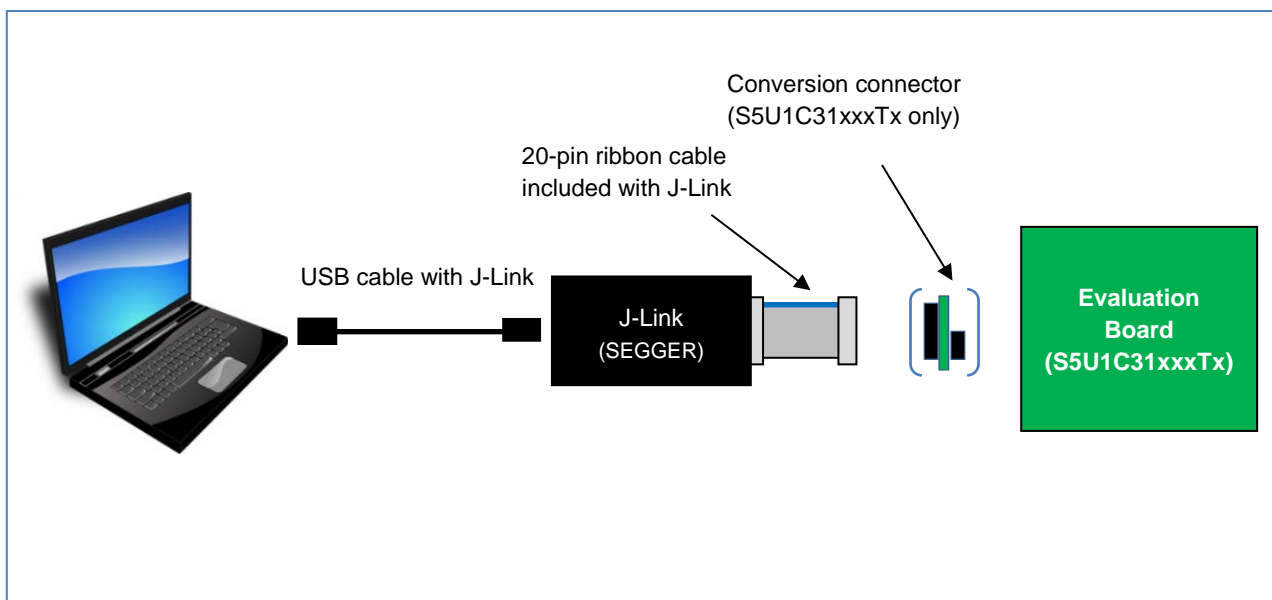

Figure 3.2.2.1 Hardware Connection using J-Link*1
*1: Figure 3.2.2.1 shows an example when the evaluation board (S5U1C31xxxTx) works using 5V power supply supplied from a debug probe (J-Link).